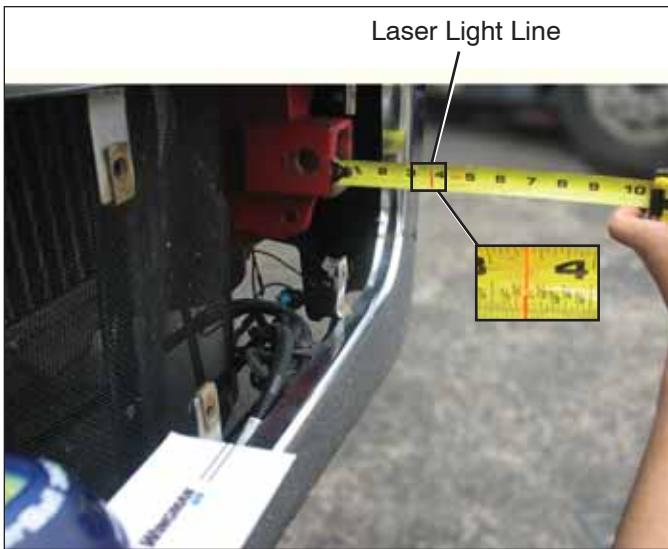

FIGURE 35 - LATERAL ALIGNMENT VERIFICATION
5. Using a ruler or tape measure, measure the distance from a symmetrical vehicle point (such as the tow hooks) to the laser light line. Record this measurement. See *Figure 35*.